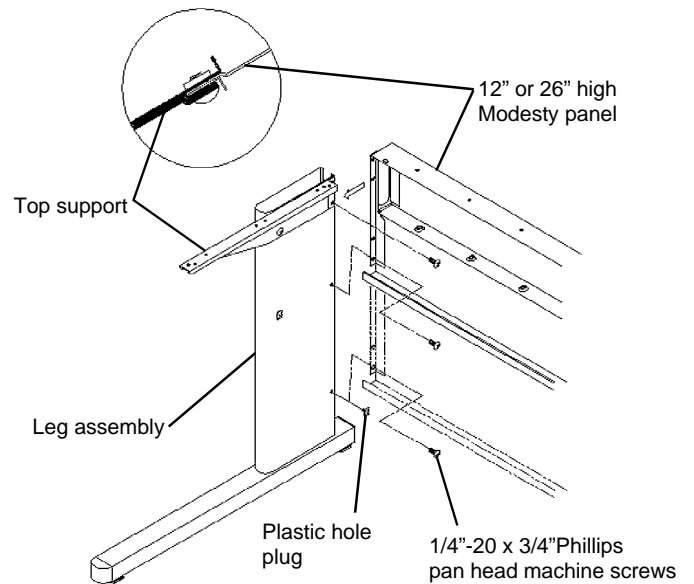
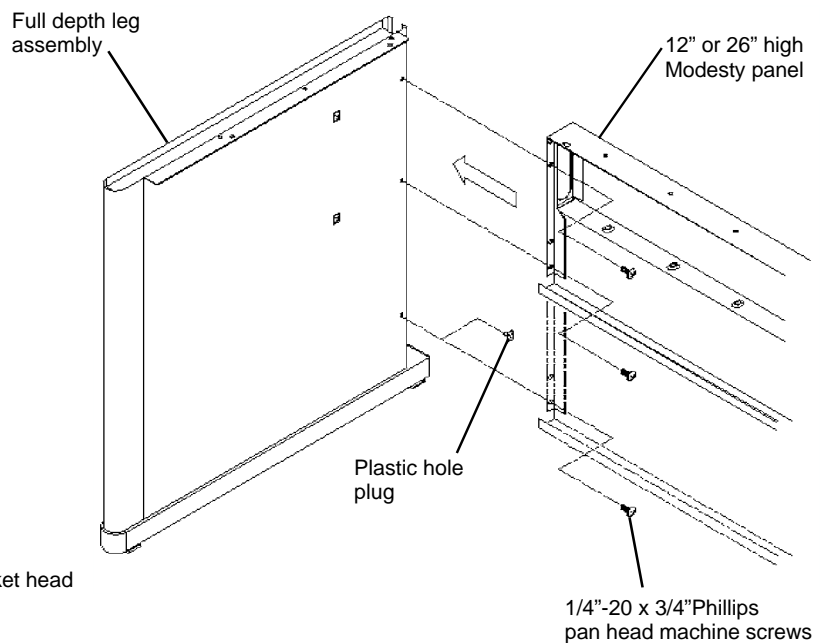

Figure 2
Figure 2a
2. Attach a **Left** and **Right** Leg Assembly to their respective ends of the **Modesty Panel** using the 1/4"-20 x 3/4" Phillips pan head machine screws provided. Tighten securely. See **Figure 2** and **Figure 2a**.